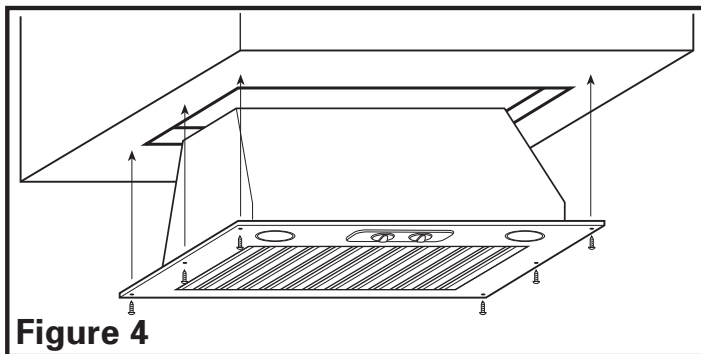

Figure 4
1. Install the insert unit into the hole and secure in place using six screws (not included) (**Figure 4**).